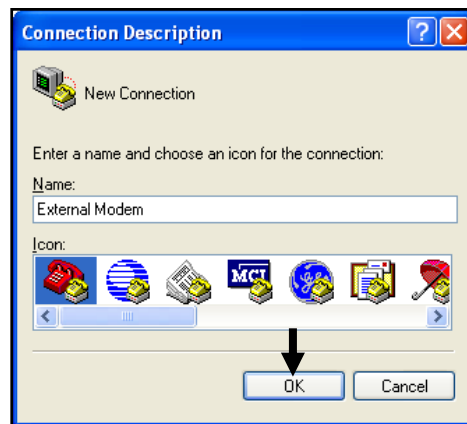

Fig. 5.3
- 4) Once HyperTerminal has started, type in any name, choose any icon that you wish, and then select **OK** (Fig. 5.3).